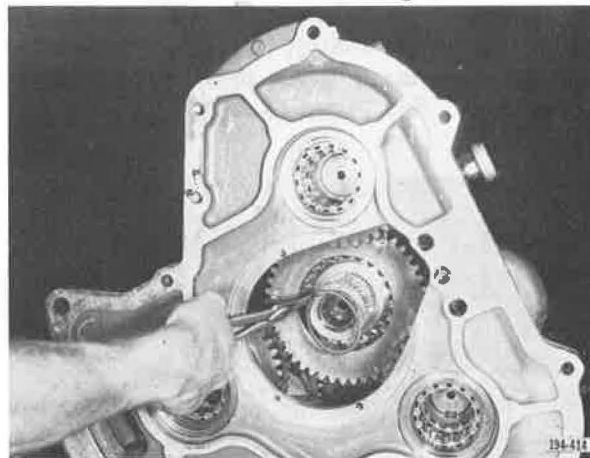

Figure 5-495. Installing Snap Ring
29. Install Lo-range (or Lo-Lo range) gear retaining snap ring, using snap ring pliers J-6435 or equivalent. See Figure 5-495.